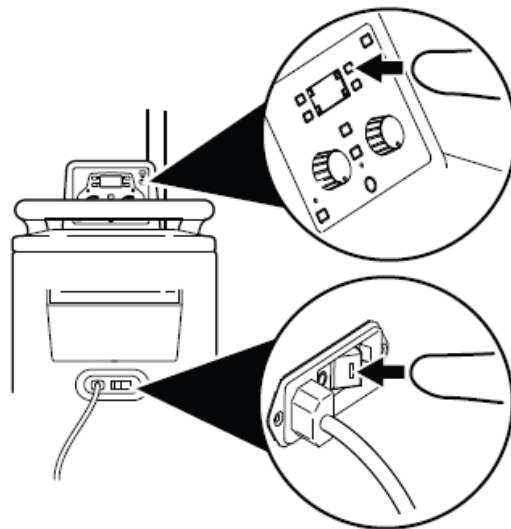

Figure 6: Access the System Settings Menu
21. Turn off the main power switch. Access the System Settings Menu by holding down the display button in the upper-right hand corner while turning on the main power switch. (See figure 6)